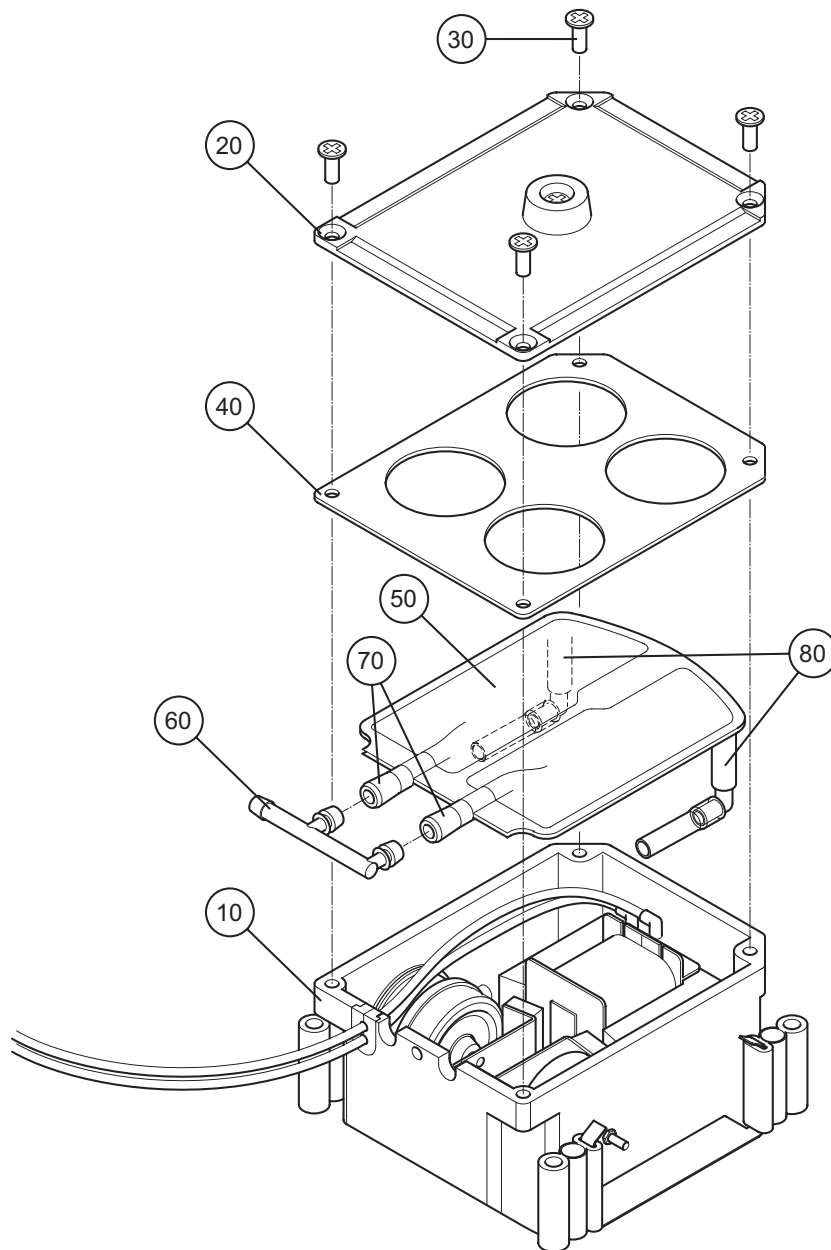

Figure 10 - Compressor Silencer Bag
- 22.2 Remove four screws (Fig 10, Item 30) and carefully lift off the compressor lid (Fig 10, Item 20) and gasket (Fig 10, Item 40) from the compressor assembly (Fig 10, Item 10). Discard the gasket.
- 22.3 Disconnect the outlet tubes (Fig 10, Item 70) of the silencer bag (Fig 10, Item 50) from the 'F' tube connector (Fig 10, Item 60).
- 22.4 Disconnect the inlet tubes (Fig 10, Item 80) of the silencer bag from the valve bodies.